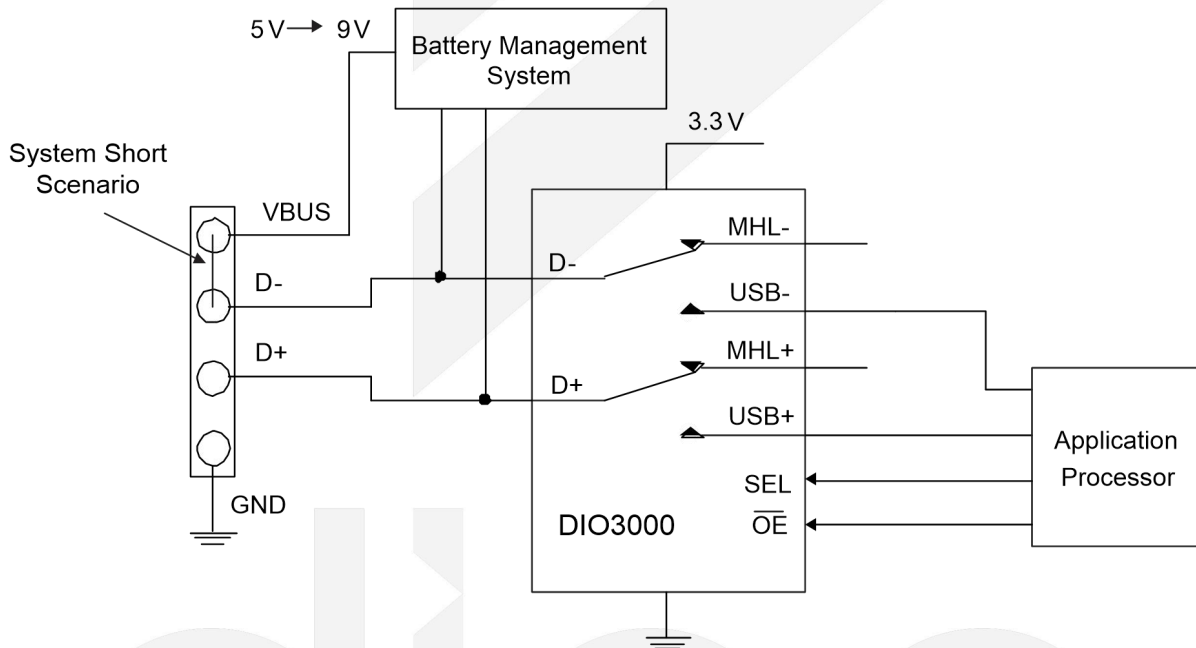

Figure 13. Potential VBUS to D-Short Example
In Figure 13, the system has an application processor (AP) which cannot survive 9V on the USB data lines. The following procedure protects the system and the DIA3000.